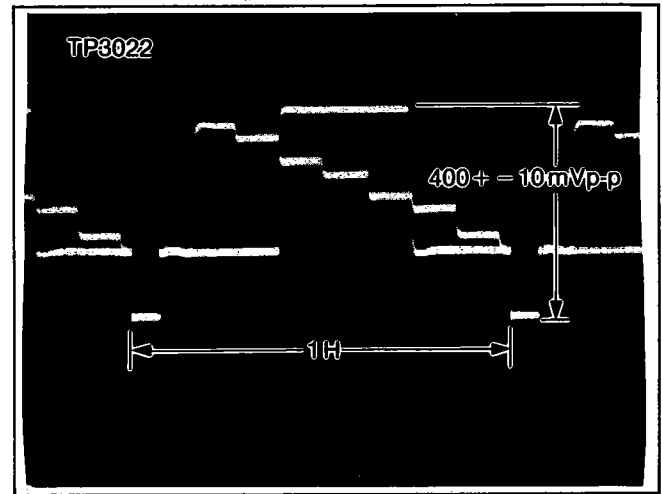

Figure E22
4. Adjust VR301 until the luminance level is 400 +/- 10mVp-p as shown in Figure E22.